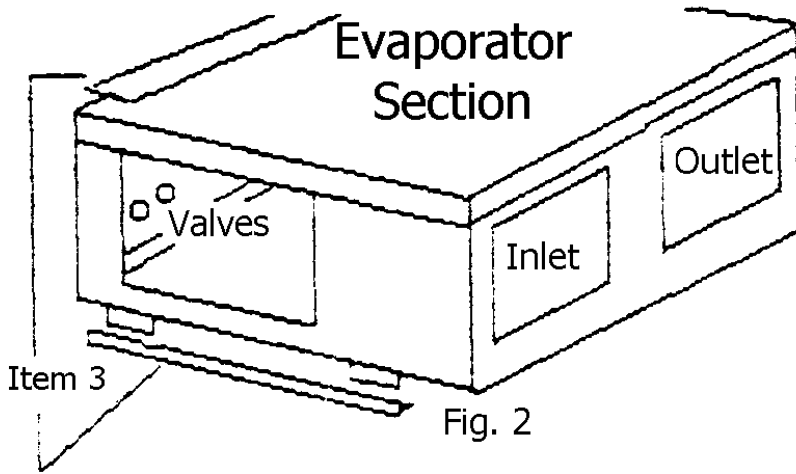

Fig. 2
1. Remove indoor air section panel (see Fig. 2).
3. Remove the unit top tie-piece, removing only those screws, which attach the top, piece to the two covers. (See Item 3, Fig.2).
5. Remove the two side cross-member angles. (See Item 5, Fig. 2)